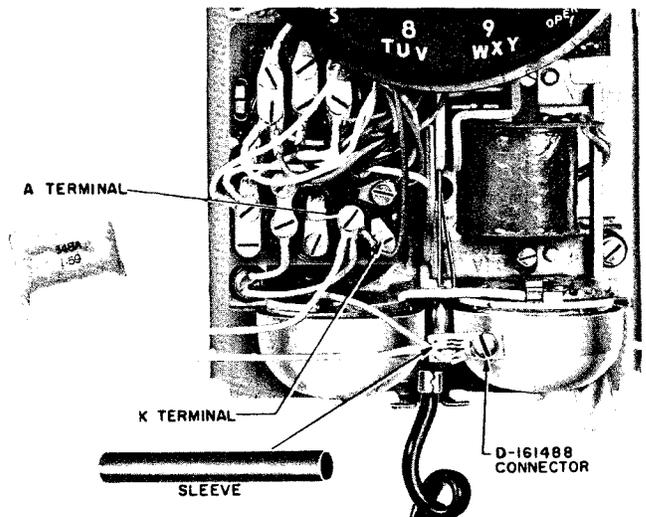

Fig. 11 - Connection for Shorted Capacitor
**9.06** Remove ringer leads from terminal K of 425-type network and bridge to other side of 548A capacitor, using D-161488 connector (see Fig. 11).